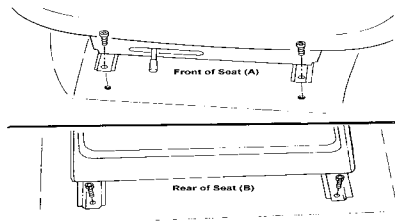

FIGURE 5
- A. Bolt the two (2) REAR BRACKET [9] to the tabs of the REAR CROSSBAR [10].
STEP 4; SEE FIGURES 5 A & B: